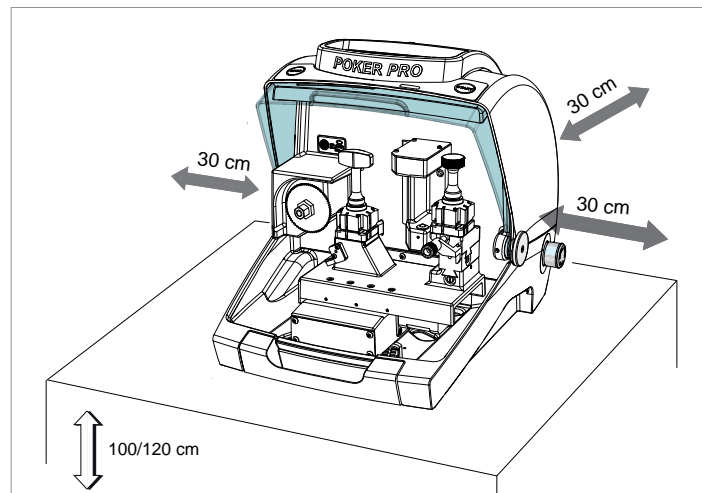

Fig. 8
- 1) Place the key-cutting machine on a solid horizontal work bench suitable for the weight of the machine (16 Kg). The work bench should be approximately 100-120 cm high to facilitate access to the working parts. We recommend leaving at least 30 cm clearance behind and around the machine to ensure good ventilation and facilitate handling (Fig. 8).